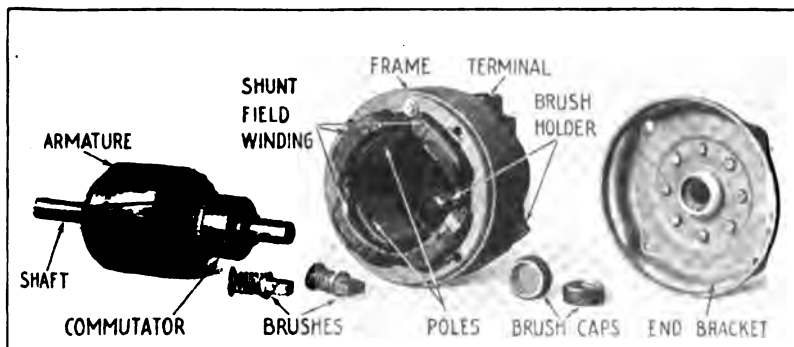

Fig. 360. Westinghouse Bipolar Generator for Six-Volt Double-Unit Single-Wire System
**Generators.** Four types of generators are made, as illustrated in Fig. 116, Part III; in Fig. 157, Part IV; and in Fig. 360, shown herewith, the fourth being similar to the unit shown on this page except for the method of regulation employed, which is of the third-brush type.